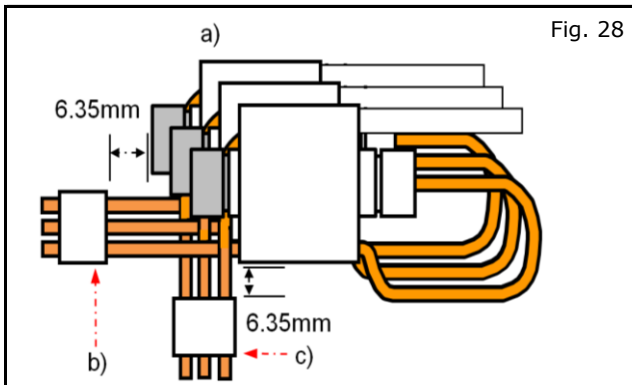

Fig. 28
- 29) Securing multiple accessory taps (Fig. 28).